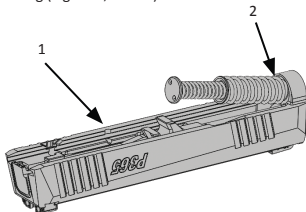
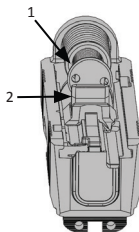

Figure 2
Figure 3
2. Insert the larger outer spring of the recoil spring guide assembly (Figure 2, Item 2) into the slide (Figure 2, Item 1). Seat the spring guide head (Figure 3, Item 1) centered on the barrel lug (Figure 3, Item 2).